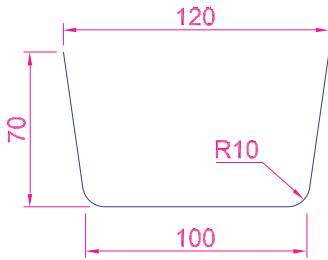

Fig. 17.31 Example – **Rulesurf** –
2. In the **3D Navigate/Front** view construct the pline as shown in Fig. 17.31.